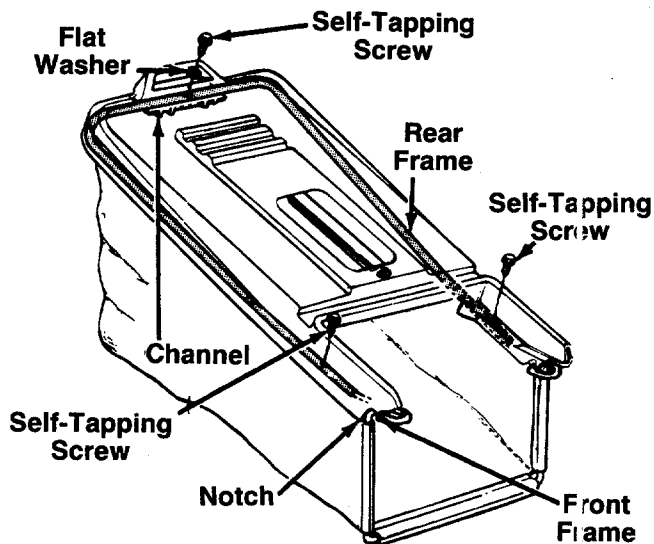

FIGURE 10.
4. Attach the hardtop cover to the grass catcher as follows. See figure 10.
- c. Attach rear of cover to frame using the flat washer and one self-tapping screw as shown in figure 10. Attach the sides of the cover to frame with the other two self-tapping screws.